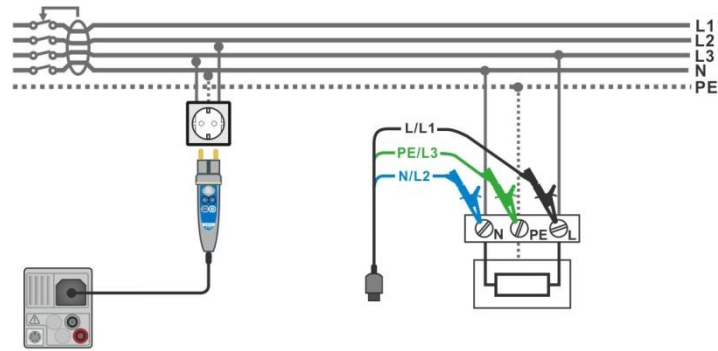

Figure 7.23: Connecting the Plug commander and the 3-wire test lead
- › Connect test leads or Plug commander to the object under test, see **Figure 7.23**.
<ul style="list-style-type: none"> <li>› Enter the RCD Auto function.</li> <li>› Set test parameters / limits.</li> <li>› Connect test cable to the instrument.</li> <li>› Connect test leads or Plug commander to the object under test, see Figure 7.23</li> <li>› Start the measurement.</li> </ul>	Start of test